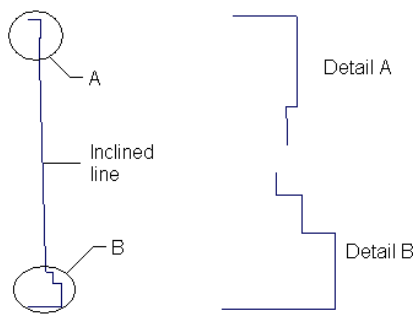

Figure 3-89 Profile of the base feature
4. Choose the **Polyline** tool from the flyout and create the profile, as shown in Figure 3-89. You can use the **Snap to Grid** option to create the profile easily.
2. In Figures 3-89 and 3-90, the grid display has been turned off for clarity of the features.